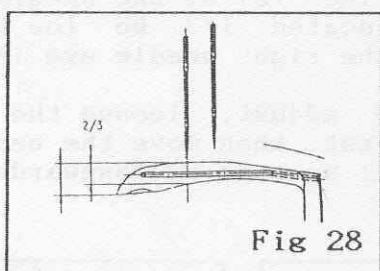

Fig 28
1. For the 2-needle model, while the end of the left needle is in 2/3 position of the looper. (Fig 28)